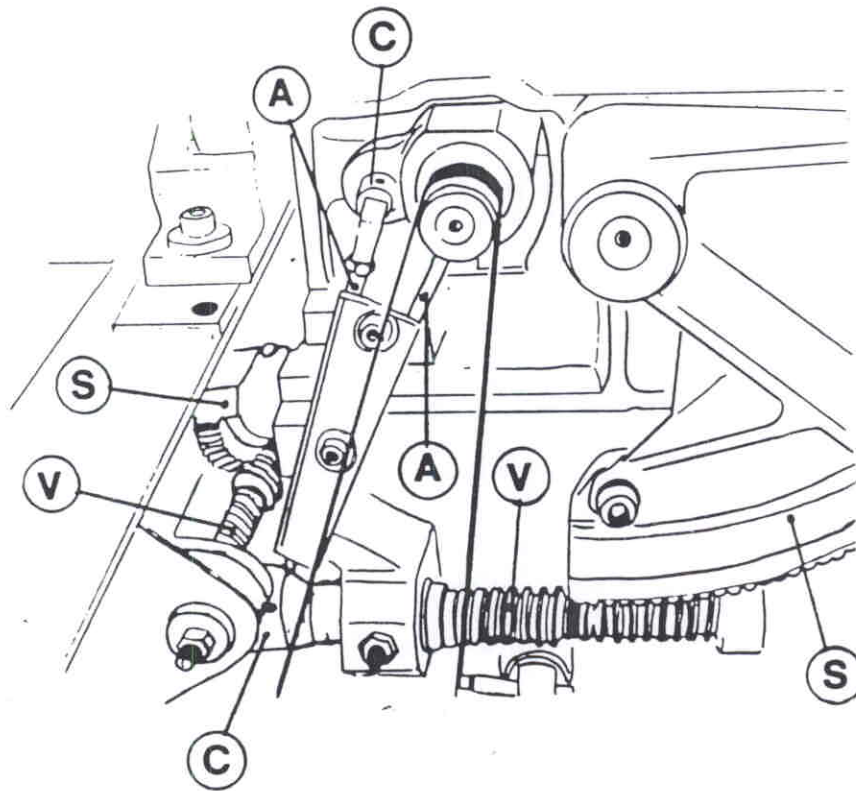

Fig.58
- 1) Screws (V fig.58) as well as sectors (S)
- 2) Sleeves (C) and rods (A) of the scoring unit with a light grease film after cleaning them with a jet of compressed air.